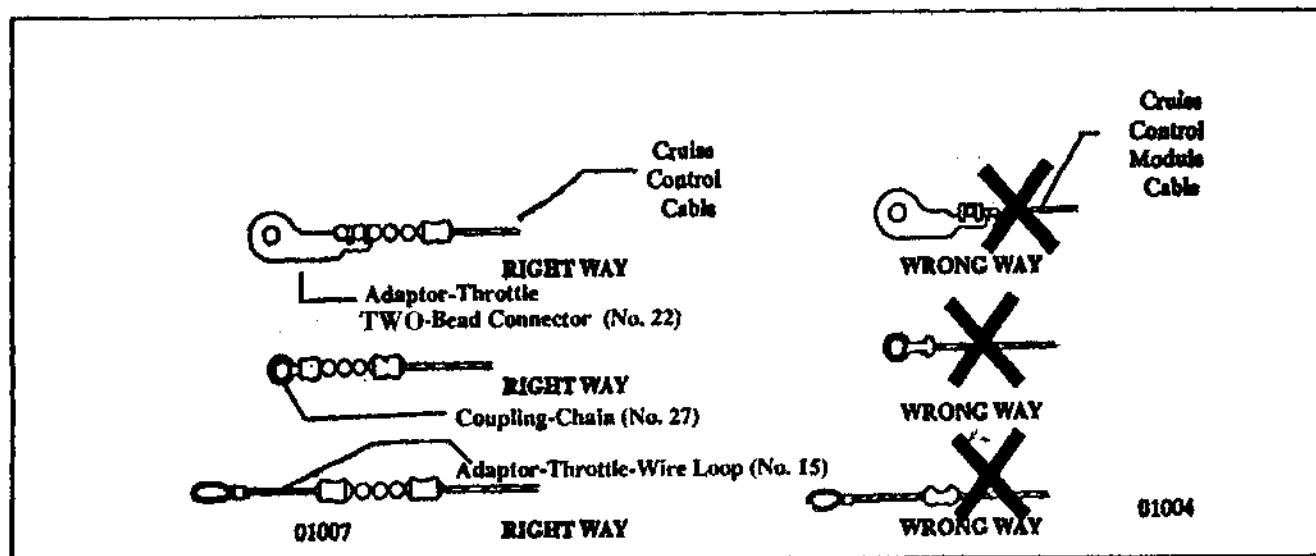

Figure 6
You must allow at least three (3) free beads, of Bead Chain between the throttle connection place and the end of the Cruise Control Module cable for lost motion. See Figure 6. This will keep the Cruise Control Module cable from bending and/or damage when not in use.